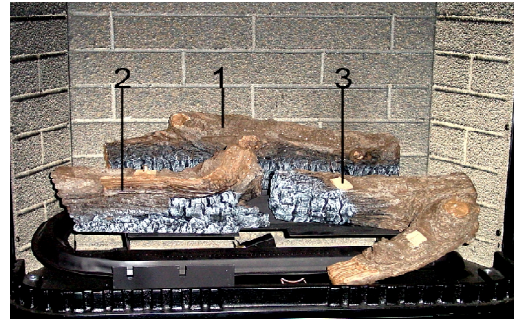

Figure 6
- Fasten decorating logs 1,2,3 onto the correspondent angle iron (Figure 6).